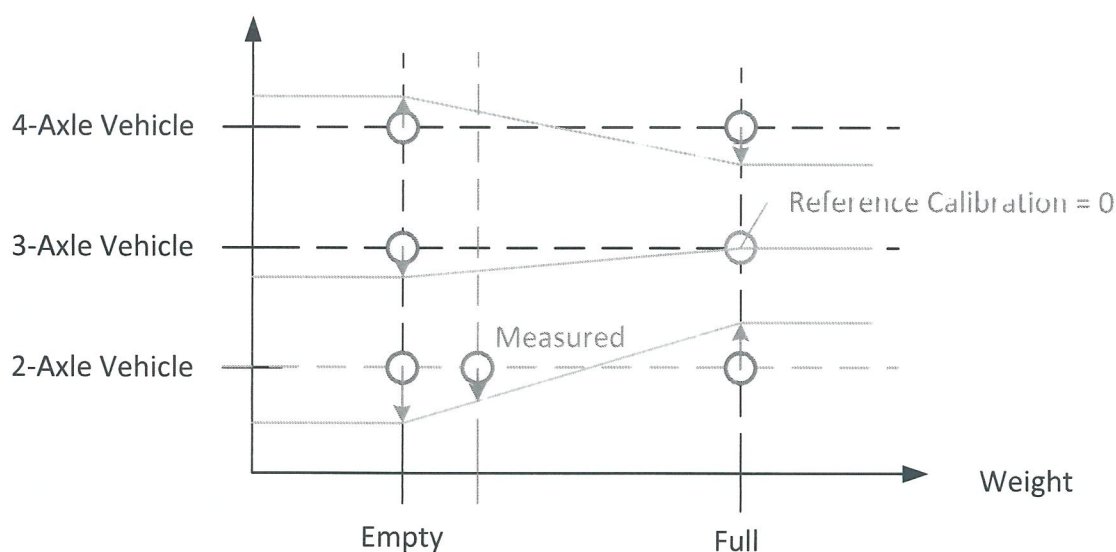

Figure 3: Weight dependent Interpolation
4. **Weight:** Between the weight columns, the factor is calculated by linear interpolation for the actual weight value (See Figure 3)